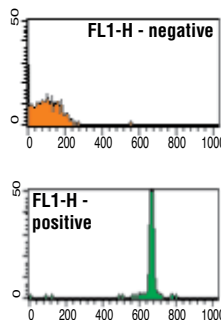

Figure 5
2. Using the FL1 and/or FL2 channels (depending on the reporter antibodies used), determine whether or not any bead populations tested “positive” for the analyte. (Figure 5) *Note:* A positive bead will produce a fluorescent peak in the FL1 or FL2 channel. The minimum fluorescence intensity needed to be considered “positive” is based on the Relative Channel Value (RCV) of the peak. It is up to the investigator to determine what threshold RCV value will constitute a “positive” result.